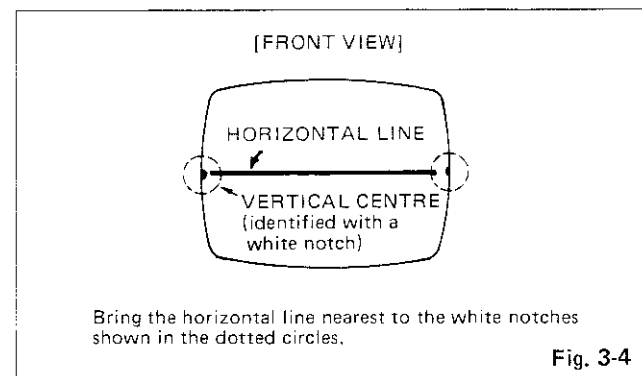

Fig. 3-4
6. Check the vertical center position by displaying a horizontal line. Unless correct, bring it to the center by rotating the two tabs, kept at an angle, together in either direction. (Fig. 3-4, 3-5)